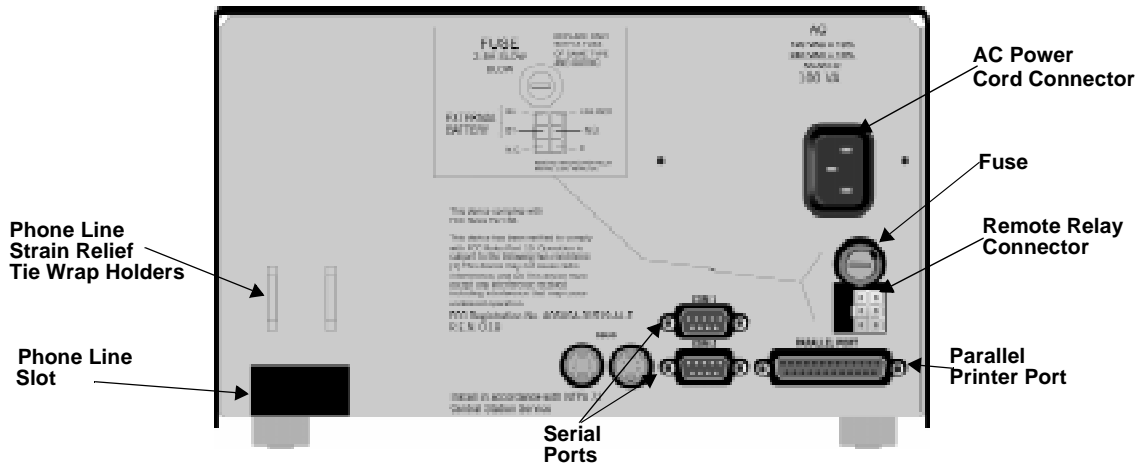

Figure 3-3 Model 9500 Rear View
*Note: Use the tie wrap (P/N 120101 provided with each line card) on the tie wrap holder to add strain relief to the telephone lines. See Figure 3-3.*
See Figure 3-3 for the location of the phone line inputs. Connections to the 9810 phone jacks are made with a standard 7-foot phone cord (provided with each line card).